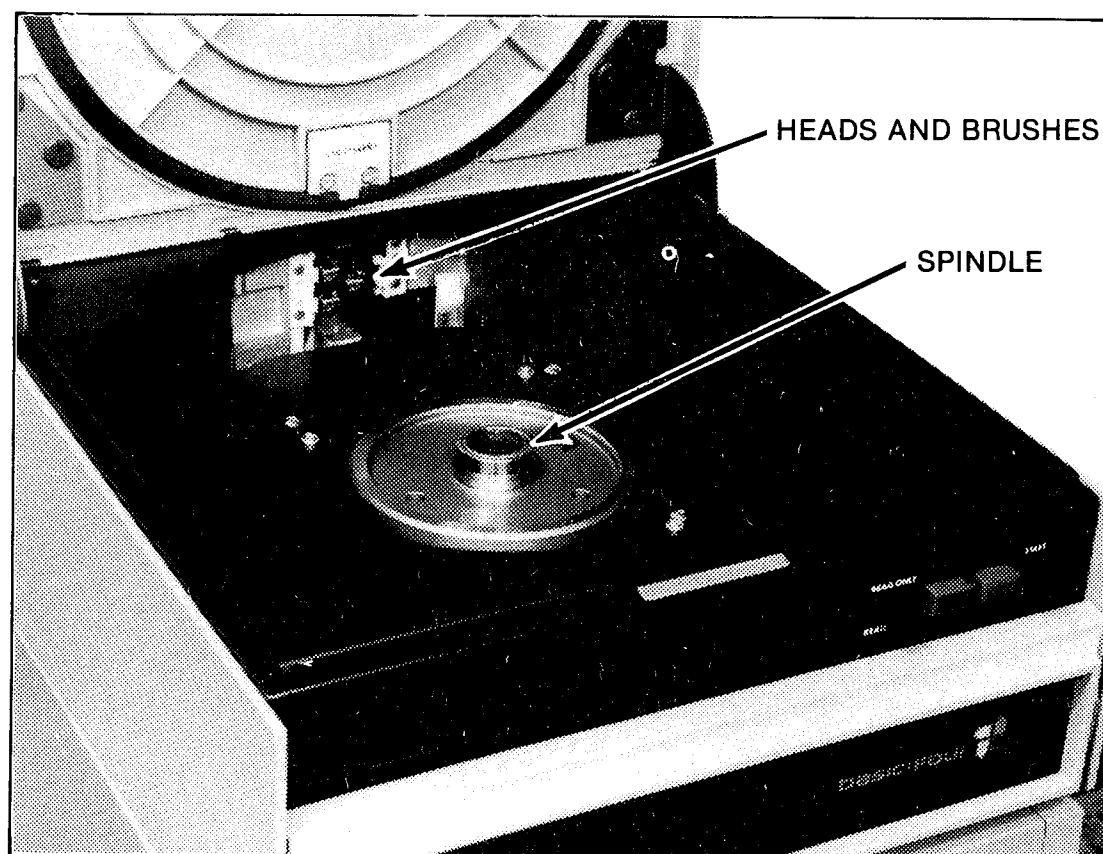

Figure 3. Disc Pack Area
- Check the disc pack area. It should be clean, and the heads and brushes should be completely retracted. (Figure 3.)